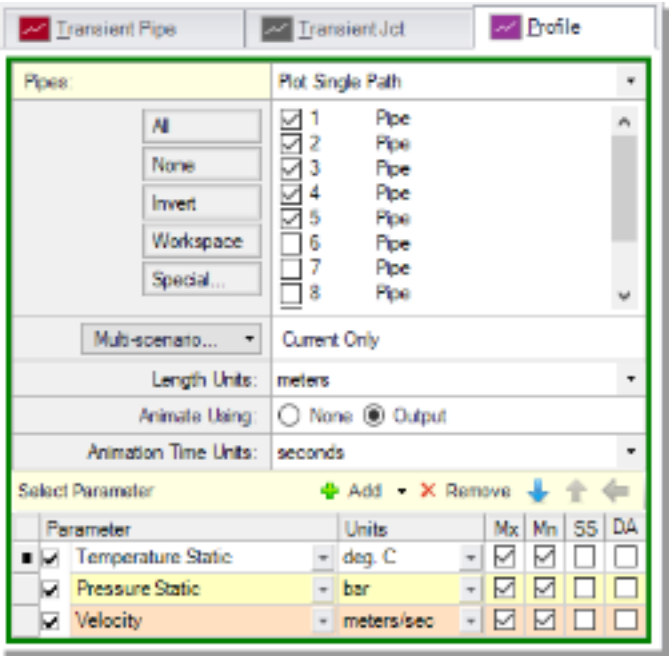

Figure 3.10 Graph parameters for Combustion Basket #1 animated profile
- **Specify the following graph settings** (Figure 3.10):